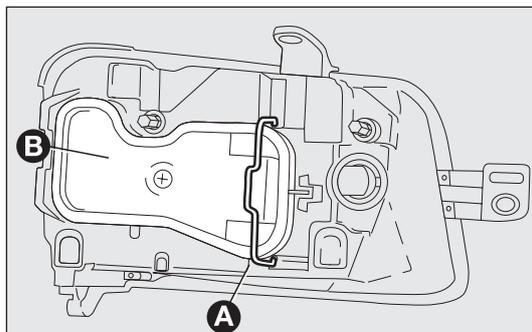

fig. 141
- release the clip A-fig. 141 and remove the cap B;